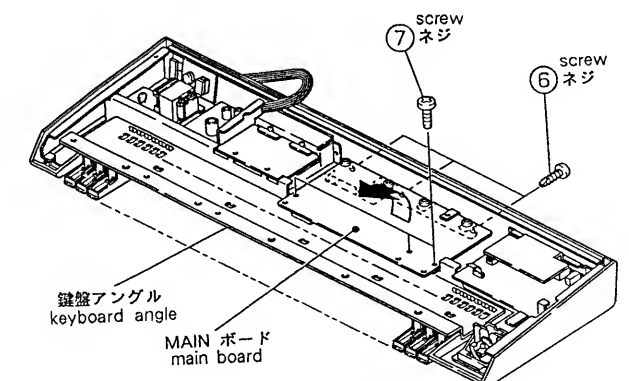

Fig.3
3) Loosen (6) 3 screws on the rear panel and (7) 3 installation screws on the main board and remove the main board from the panel and keyboard angle. Place the main board face up and to the keyboard side so that the part surface is visible. (Fig.3)